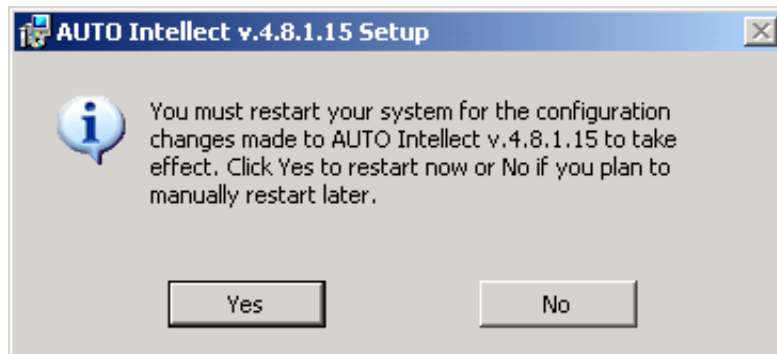

Fig. 6.4-4 Auto Intellect v.4.8.1.15 installation dialog box
Step 4. As a result a dialog box which warns that you must restart your system for the configuration changes to take effect. To restart your system automatically click Yes (see Fig. 6.4-4).